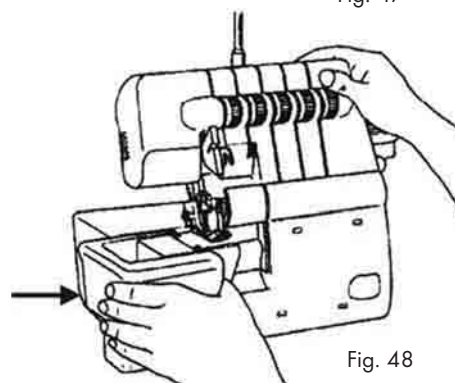

Fig. 48
- To replace the free arm cover, push it onto the free arm ⑫ until it clicks into place and is firmly seated (Fig. 48).